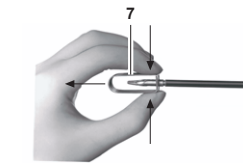

Fig. 3
- ▶ Compress pin protector 7 and slide it off carefully towards the sheath, see Fig. 3.